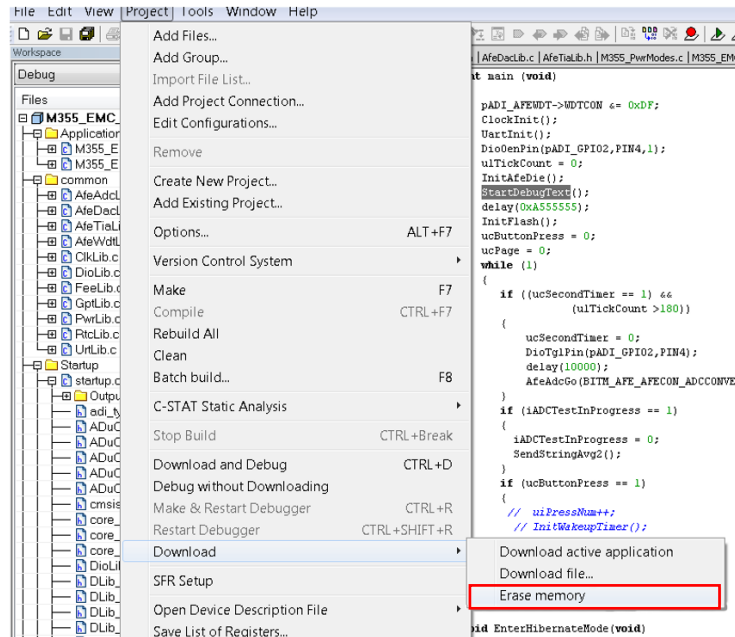

Figure 38. Embedded Workbench Erase Flash Memory Option
4. In the IAR Embedded Workbench, navigate to **Project > Download > Erase memory** (see Figure 38).